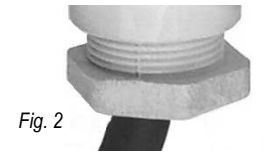

Fig. 2
4. Tighten the barrel nut of the compression gland so that the rubber seal grips the cable (Fig 2).